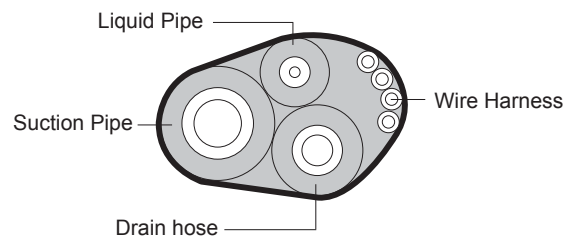

Figure 10
- After completing installation of refrigerant lines, wiring and drain connections, bind the tubing, wiring and drain hose (check if local codes permit binding) into a bundle by using tape at 100 or 200 mm (4" to 8") intervals. Make sure the drain hose is at the bottom of the bundle (Figure 10).